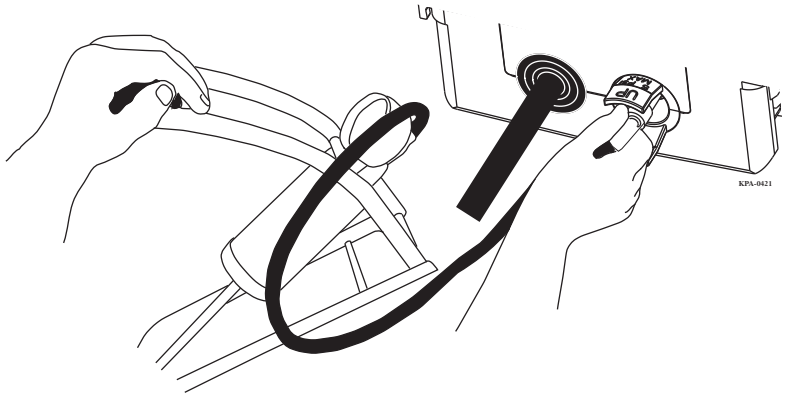

Figure 53
**Step 2:** Inject 5 psi of air into the terminal using a hand pump or a regulated tank supply (Figure 53). Check pressure regularly.